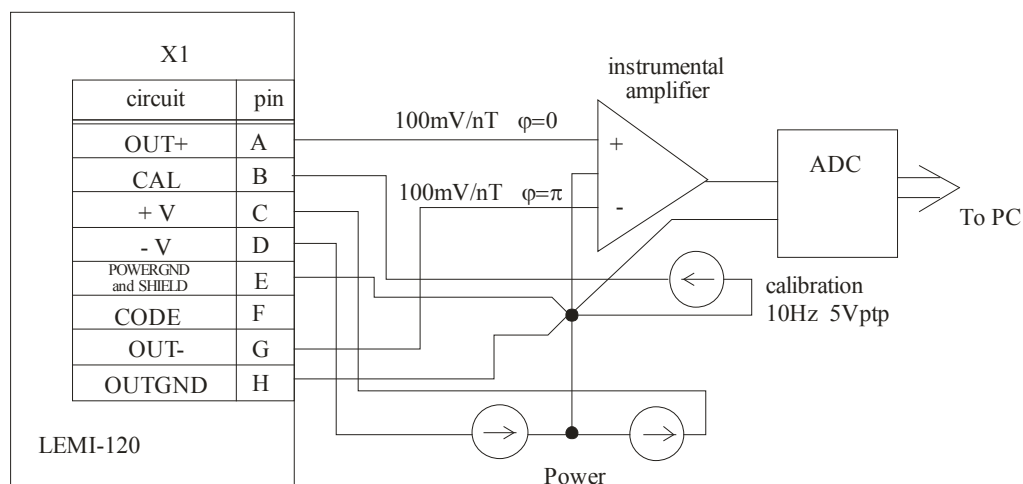

Fig.4. Connection diagram for precise measurements.
6.2. Couple the sensor to a measuring device and a power supply. See Fig.4 for recommended connection layout.
6.3. If a performance check is required, then a test signal source must be connected as shown in Fig. 4. In regular operation the mode test signal source must be disconnected.